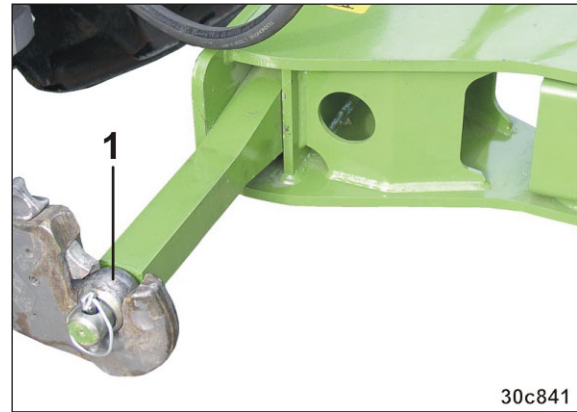

Fig. 144
3. Attach a ball sleeve to each lower link pin (Fig. 144/1) with a collecting tray.